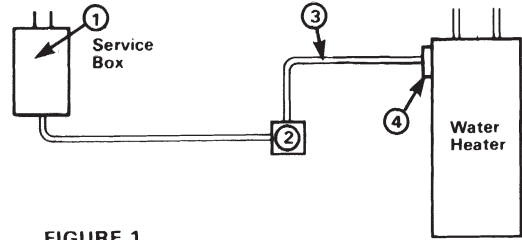

FIGURE 1
Remove the cover of water heater terminal box (Fig. 1, Item ④) **IS ELECTRICITY TURNED OFF? NOTE COLORS OF WIRES.** Disconnect wires and cable connector. Remove the most convenient knockout of the time switch case and attach cable (Fig. 2, Item ③) and cable connector to case. Prepare another cable (Fig. 2, Item ⑤) by stripping the ends of wires about half inch. Using cable connector (Fig. 2, Item ⑥), attach this cable to water heater terminal box and then the wires to water heater terminals.
Remove plug at end of water heater cord (Fig. 1, Item ③). Split cord about 6 inches and strip wire ends 1/2 inch. Remove the most convenient knockout of the time switch case. Install strain relief grommet (Fig. 3 Item ⑦) and attach cord to case as shown. Next, install strain relief grommet to the other cordset (Fig. 3, Item ⑤) and attach cordset to case as shown.